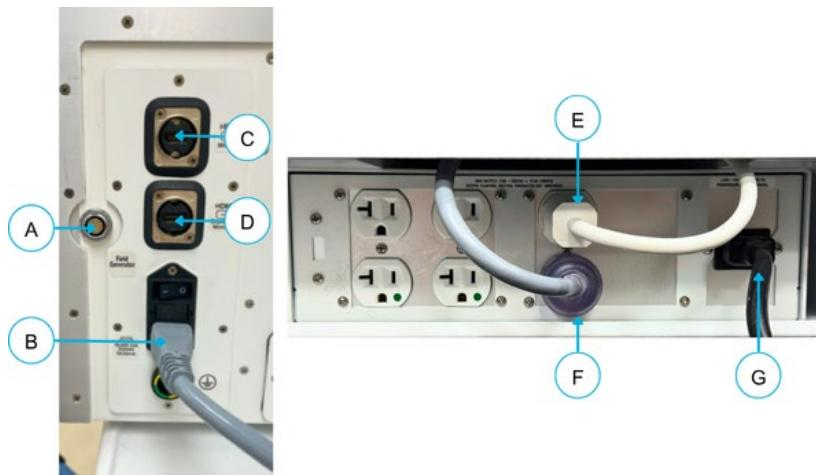

Figure 10-2: Generator to Cart Connections
1. Ensure the **Monitor power cord** is plugged into a Multiple Socket Outlet (MSO) at the base of the Cart (**E**) (see **Figure 10-2**).
2. Plug the female end of the **Vanquish Generator power cord** into the back of the Vanquish Generator (**B**) (see **Figure 10-2**).
3. Plug the **Vanquish Generator power cord** into the Multiple Socket Outlet at the base of the Cart (**F**) (see **Figure 10-2**).
4. Plug the **Cart power cord (G)** into an Operating Room outlet (see **Figure 10-2**).